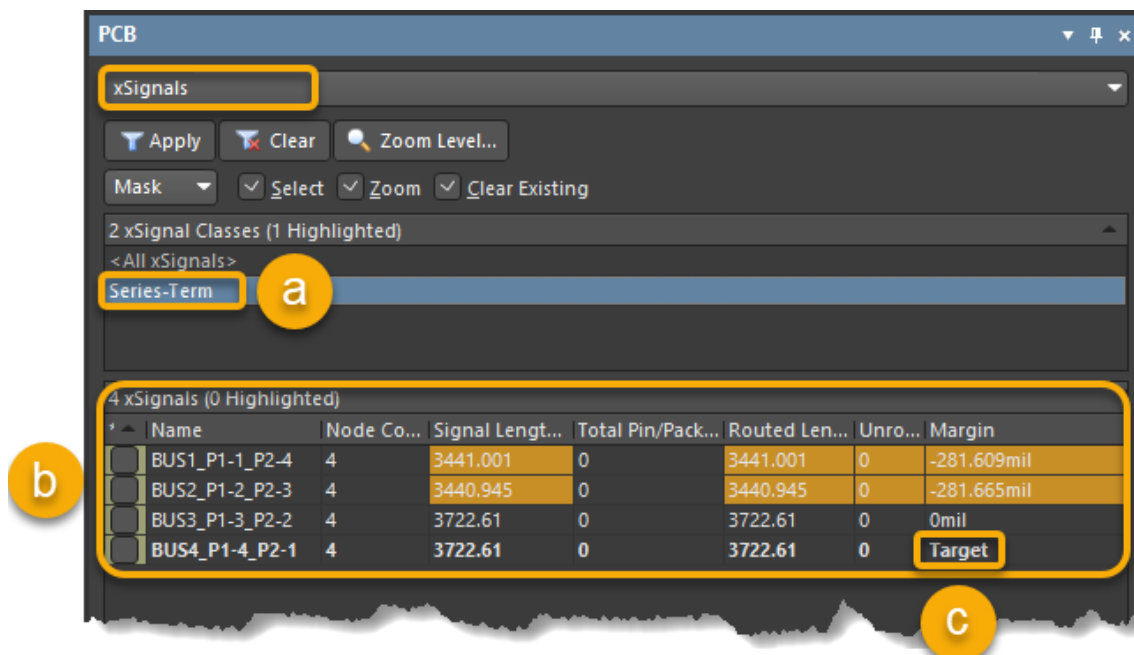

Figure 16. PCB panel with xSignal view
- Two of the xSignals violate the Length rule, as shown by the orange highlights in Figure 16. The two signals are too short compared to the Target net.